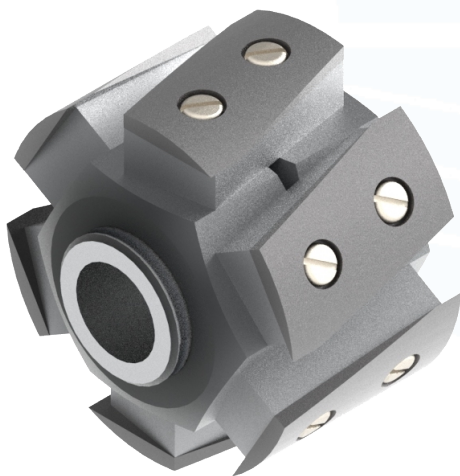

Fig. A.57.: Finished Rotor
1. Cut the thread bar to 60 mm and burr the edges. Build the pole shoes and the dummy magnets according to the drawings (see Fig.A.57).